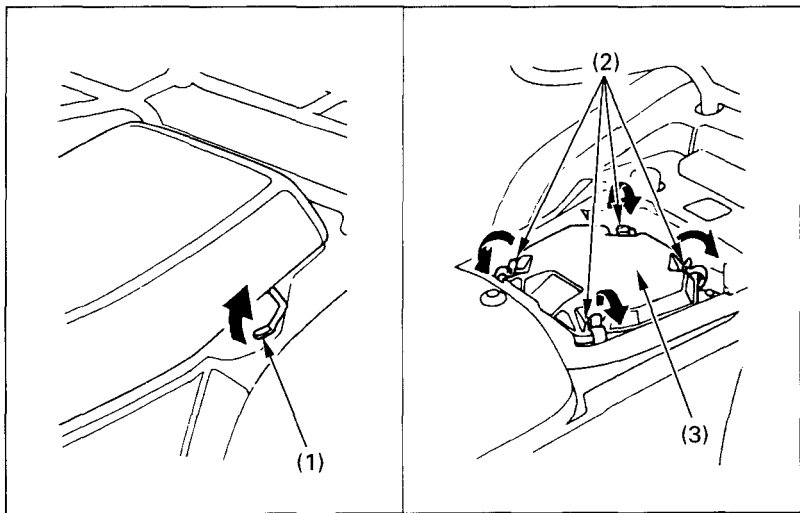

Fig. 4-5 (1) Seat lock lever
1. Remove the seat by pulling up the seat lock lever (1) (Fig. 4-5).
2. Unlatch the four retainer clips (2) and remove the air cleaner housing cover (3).